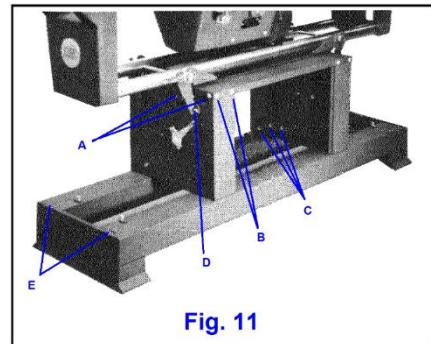

Fig. 11
7. "Levelize" the stand. The stand is designed to adapt to small variations of floor flatness. To adjust stand to your floor, locate the unit where it is intended to be used and, with headstock centrally positioned on the ways, grasp headstock and jostle it forward and backward several times. Refer to Fig. 11 and start by tightening the four truss head screws "A" on each end of deck (Total 8). Next tighten the eight truss head screws "B" on front and back of deck. Then tighten the twelve hex bolts "C" holding end frames to rails and the four 1/4" bolts "D" holding trunnion brackets to end frames. Last, tighten sheet metal screws "E" at end of rails.